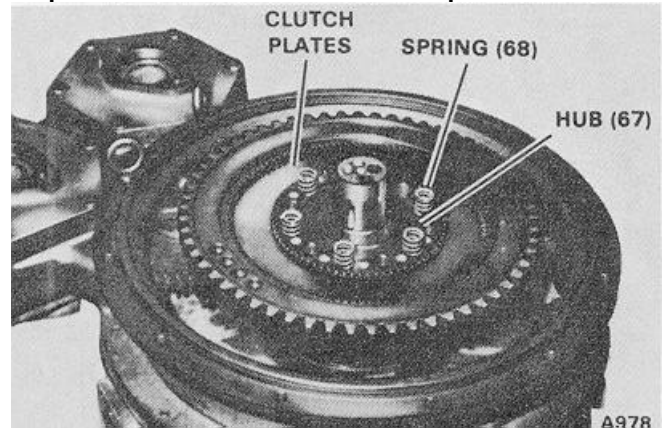

Figure 4D-2. Clutch Plate Installation
10. Lay carrier (57) on a clean workbench. Install O-ring (64) in carrier (57). Install O-ring (63) on piston (61) then install piston (61) into carrier (57). Put a coat of oil film on return plate (62) and set the plate over the roll pins (see Figure 4D-3).
11. Install the assembled carrier on shaft (71). Hold return plate (62) in place when setting the carrier on the shaft.